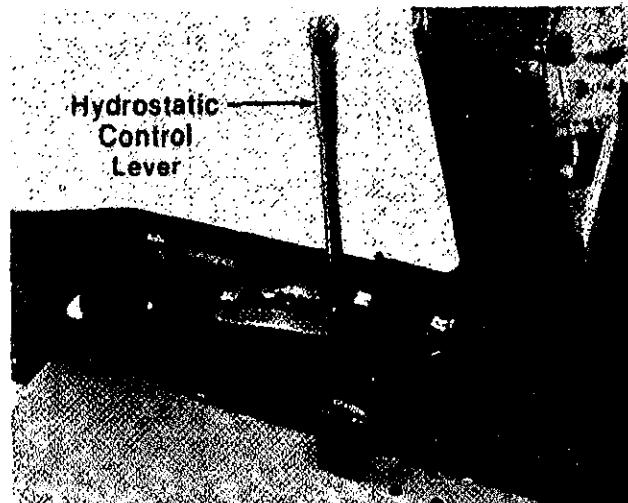

FIGURE 11.
A single control lever, connected to the hydrostatic transmission, controls both the speed and direction of the tractor. Infinite speed control is achieved by moving the control lever forward or backward. The farther forward or backward you move the control lever the faster you will travel. Pulling the control lever into neutral (N) area will stop the tractor. To increase rear wheel torque (pulling power) move the control lever towards neutral (N) position. The riding mower responds similar to shifting to a lower gear with a gear type transmission. (See figure 11.)